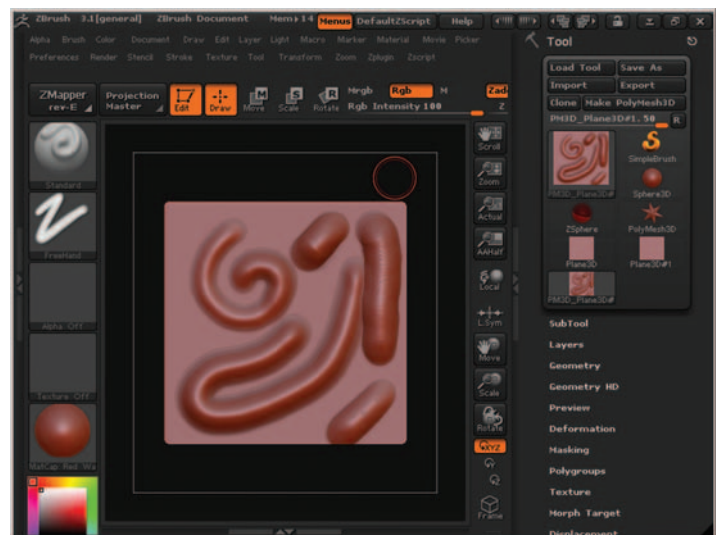

Figure 11.15 Various strokes created with the Standard brush. Changing the focal shift value changes the overall appearance of the strokes.
10. If you are using a mouse, left-click and drag on the surface of the mesh to create a freeform shape. If you are using a drawing tablet (highly recommended), use the pen to draw on the mesh. Experiment with different pressures to see the change in the way the brush interacts with the mesh. Figure 11.15 shows the mesh with a few strokes created with the Standard brush and various focal shift values. *Note: When using any brush, hitting the X, Y, or Z key on the keyboard will activate symmetry along the designated axis. Consult the manual for more details.*